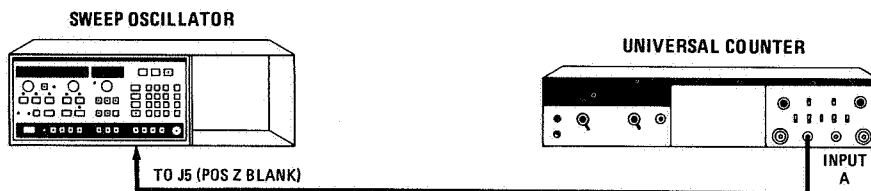

Figure 5-12. Sweep Retrace Time Adjustments Setup.
4. Position the sweep oscillator upright as shown in Figure 5-12.